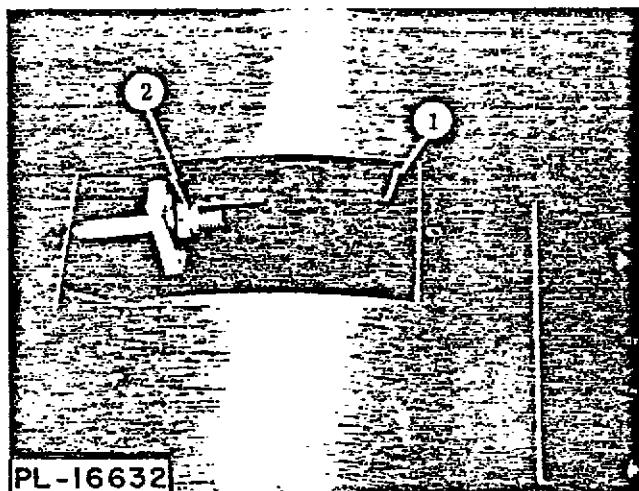

Fig. 6
D.1.2 In rare cases more tension may be required for the belt. To tighten the belt remove the small access panel (1, Fig. 6) and adjust by turning nut (2, Fig. 6) on belt tightener.